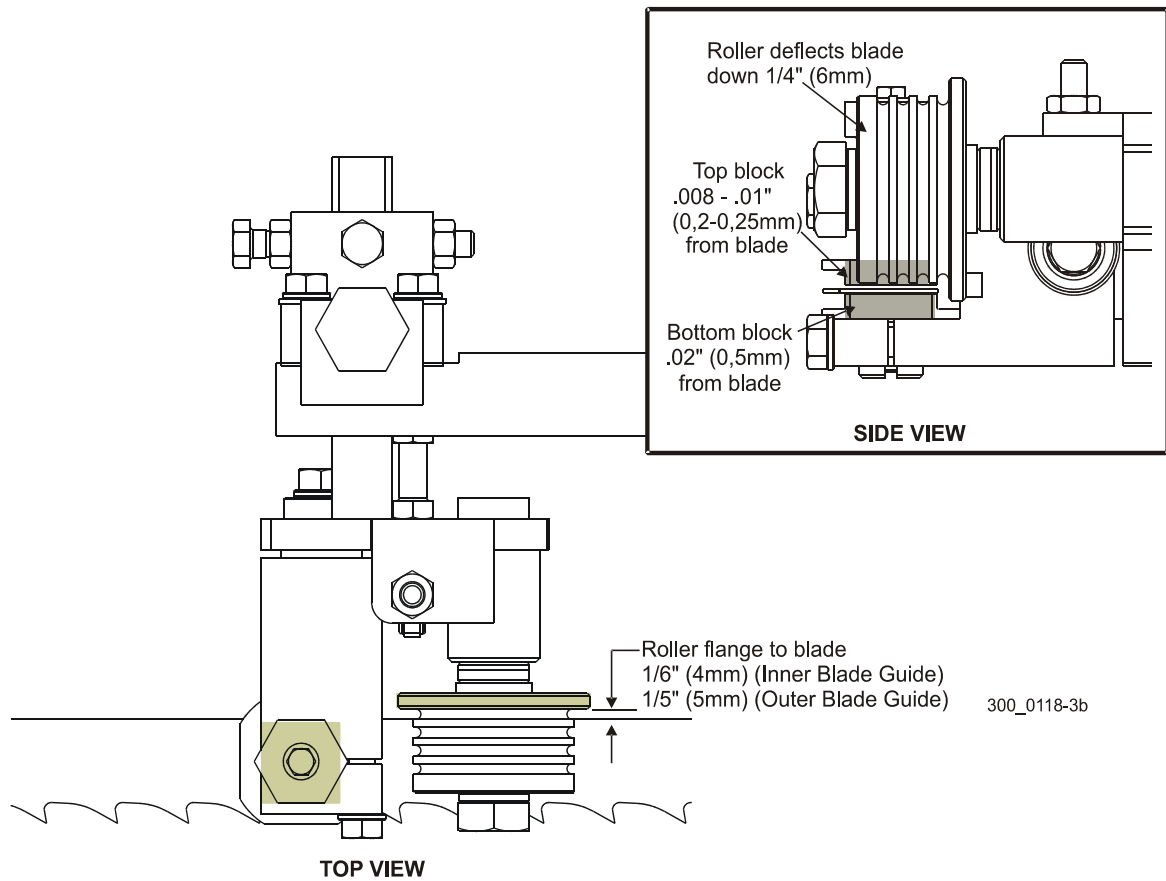

**FIG. 7-8**
**See Figure 7-8.** The objective to aligning the blades guides is to properly position the guide blocks and guide roller in relation to the blade. The roller should deflect the blade down 1/4" (6mm). The flange of the roller should be positioned 1/6" (4mm) from the back edge of the blade at the inner guide assembly and 1/5" (5mm) from the blade at the outer-